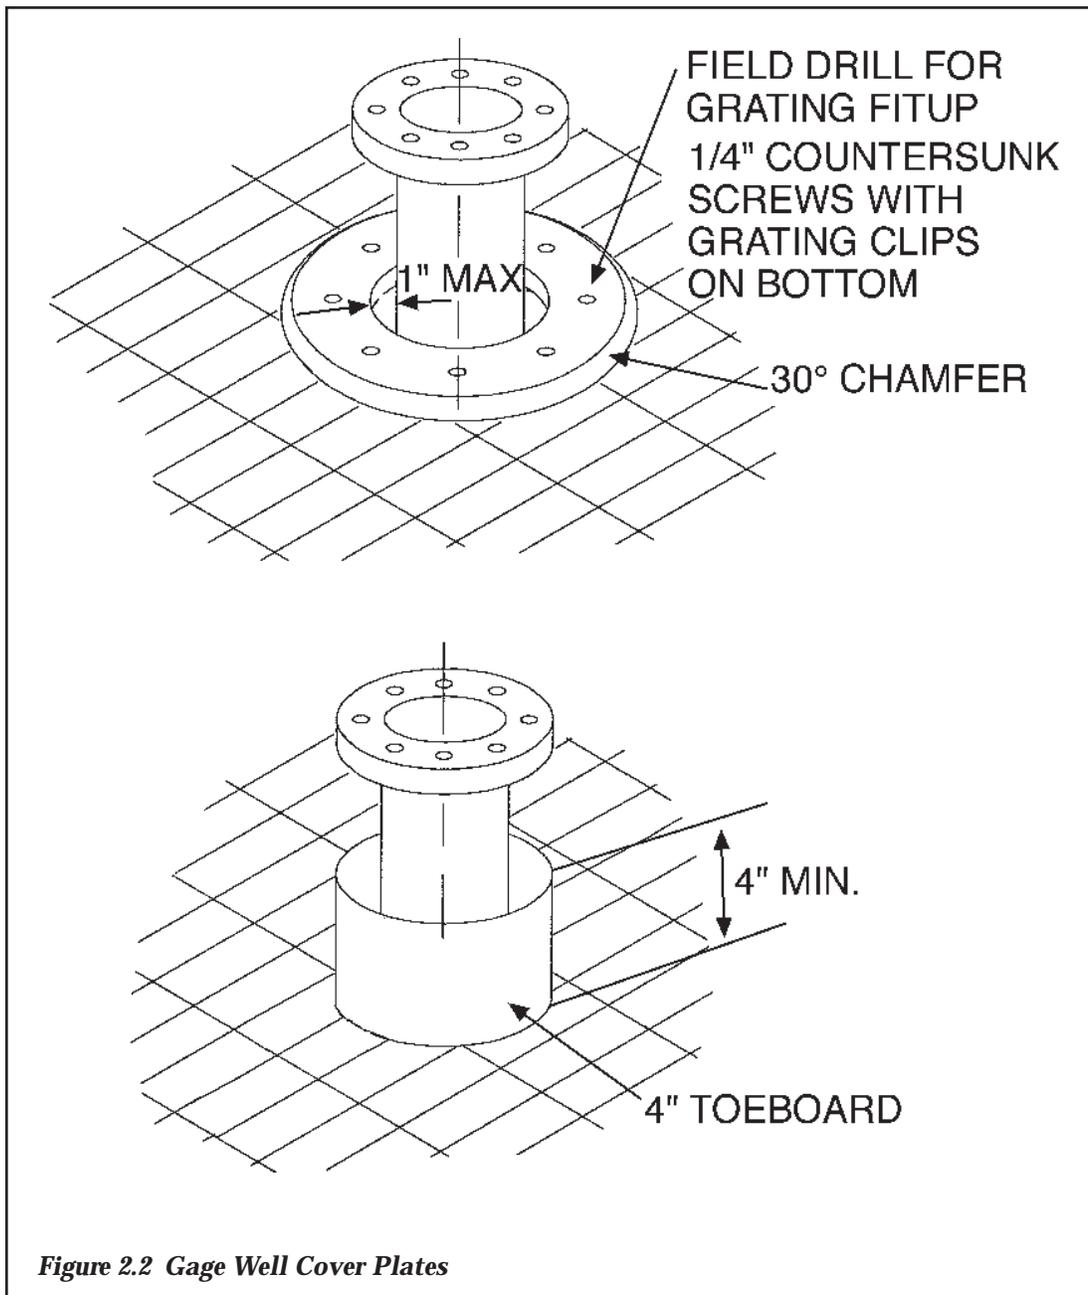

Figure 2.2 Gage Well Cover Plates
4. Floor holes or gaps require a toeboard if the least dimension is greater than 1 inch (see *Figure 2.2*).
5. Floor holes or gaps may be covered provided the cover does not present a tripping hazard (see *Figure 2.2*).